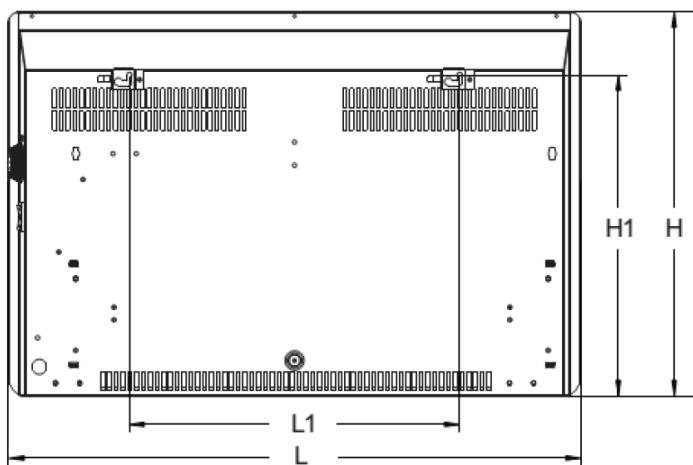
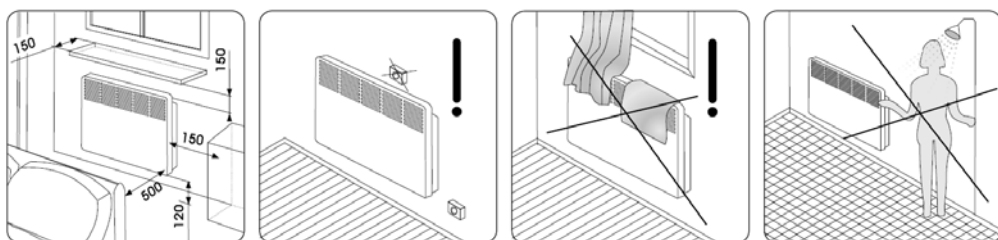

Fig. 2
Fig. 3
3. According to Fig. 2 and Fig. 3 choose the location for the installation of the device in compliance with the minimal distances from other objects and floor.